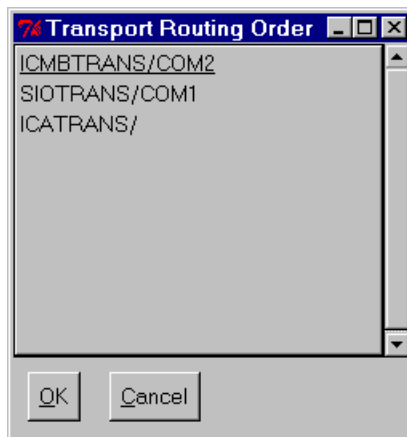

Figure 2-13. Transport Module Order Dialog Box
- **Transport Order**—Presents a dialog box for changing the priority order when multiple transport modules are available. Clicking on an item in the dialog promotes that item to the highest priority. Figure 2-13 shows the Transport Module Order dialog box containing two available transport layers: